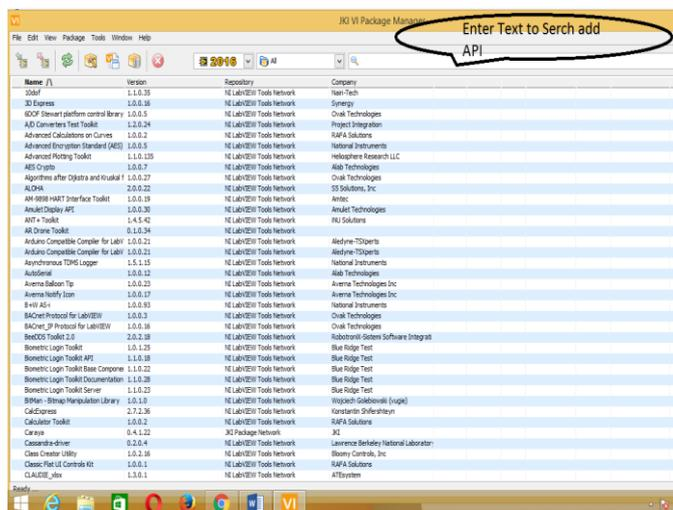

Fig.1 VI package manger
3. After installing the VIPM you have to open the VIPM which is open like fig.1